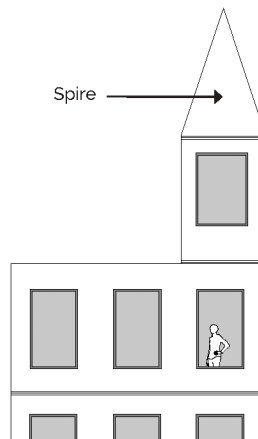

Figure 5.5-7. Spire
- (2) Spire. A spire is a long, tapering design element attached to a tower or the roof of a building. Refer to Figure 5.5-7, Spire.